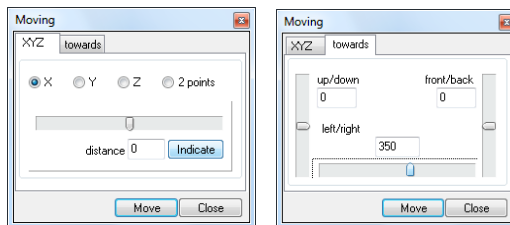

Fig. 107 – 'Moving' dialog box – 'XYZ' and 'towards' tabs
- the **Moving** dialog box will appear (Fig. 107);